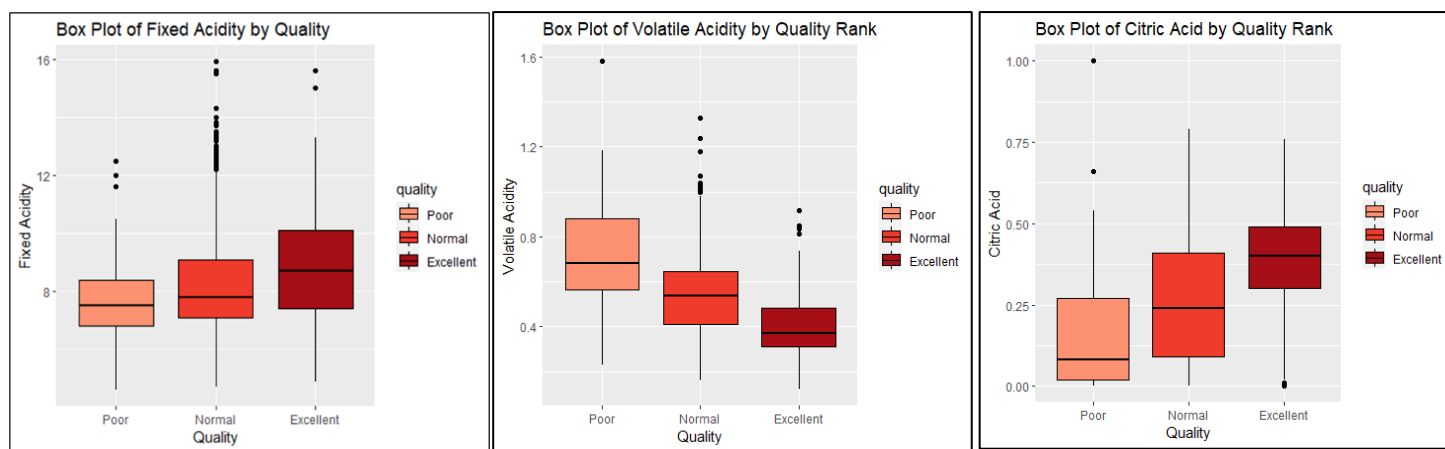

Figure 4.5- Boxplot of Fixed, Citric and Volatile acids
Fixed acidity is the set of natural acids in wine that remain in a liquid when it's boiled. Box plot of Fixed Acidity by Quality (figure 4.5) illustrates that high quality wines tend to have higher Fixed Acidity compared to other two; normal and poor, box plots. The variability among the quality categories is moderate, as evidenced
Citric acid is a weak organic acid that is less commonly found in wine. It is often added to wines after fermentation to increase their total acidity. Citric acid found in small quantities, citric acid can add ‘freshness’ and flavor to wines. Figure 4.5 reveals that high quality wines demonstrate a discernible increase in citric acid compared to lower quality categories. As quality increases there is a significant increase in the median of citric acid.
Volatile acidity (VA) is a measure of the wine's gaseous acids that contribute to the smell and taste of vinegar in wine. High quality wine has lower VA compared to lower quality wines. The box plot of VA by quality rank (figure 4.5) shows a clear trend of decreasing VA as quality improves.